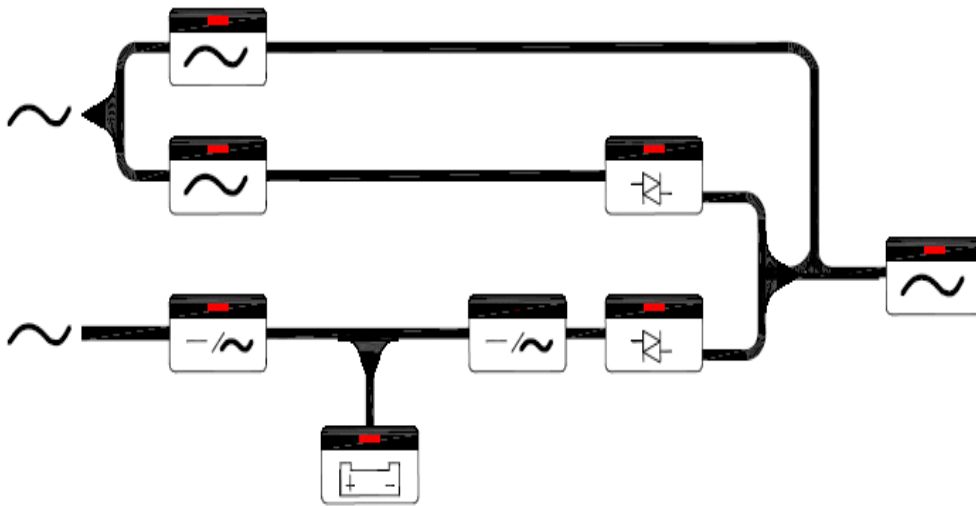

Figure 5.1 Mimic Display under normal operation
12. Push inverter ON switch – To turn on the inverter, the inverter ON switch (I) and the control switch (◆) must be pressed simultaneously. The inverter will start working and the inverter output will be established in 4 seconds. The load will automatically be transferred to the inverter 3 seconds later. Now the unit is in normal operation.
13. Check if the mimic LED is correct, as shown in Figure 5.1. All warning LEDs on the right side are off, two LEDs: 'INVERTER ON' and 'INVERTER SS' on the left side should be lit. If the load is over 70%, the '70% LOAD' LED will also be lit.